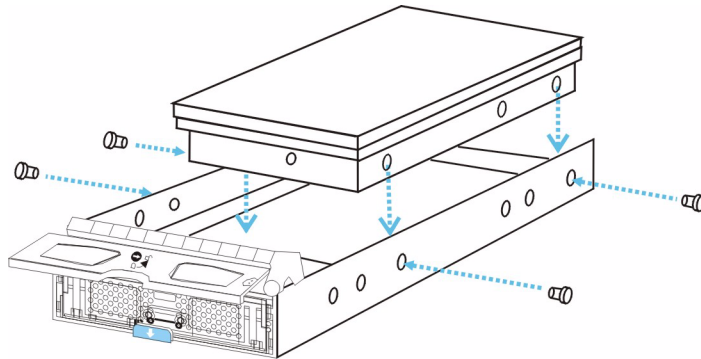

Fig. 6.10 Installing a SATA Hard Drive
7. Place the SATA hard drive into the drive tray (as shown in *Figure 6.10*) making sure that the hard drive is oriented in such a way that the drive's SATA connector is facing the back of the drive tray.
8. Adjust the drive's location until the mounting holes in the drive canister are aligned with those on the hard drive. Secure the drive with four supplied 6/32 flathead screws. (See *Figure 6.10*)